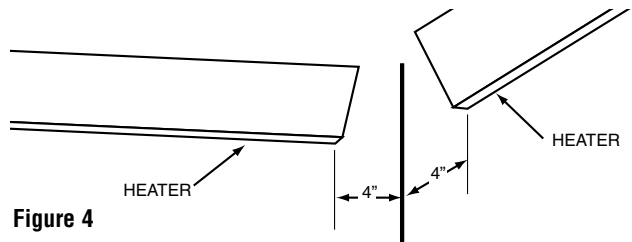

Figure 4
7. The following minimum clearances must be maintained (see Figure 1 and Figure 4):
Heaters must be located so that the ends of each heater are 4 inches (102 mm) from side wall. See Figure 4.